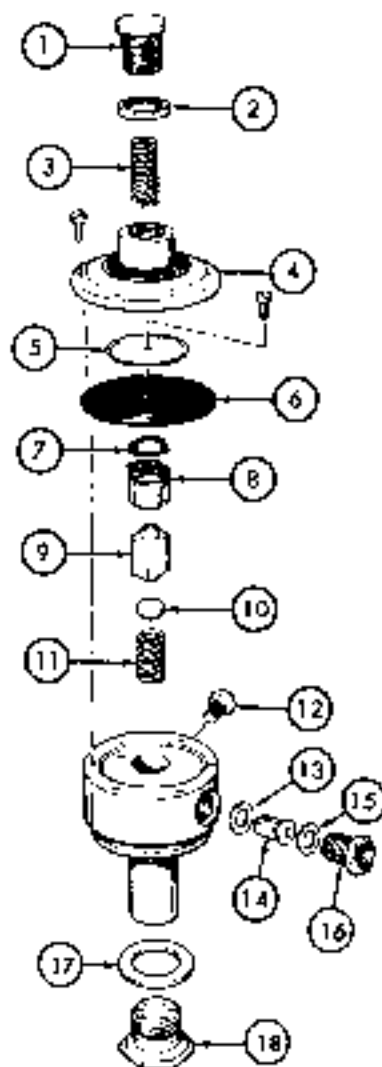

Fig. 144
a. Fig. 144 illustrates components to vaporizer. Refer to illustration when reassembling.